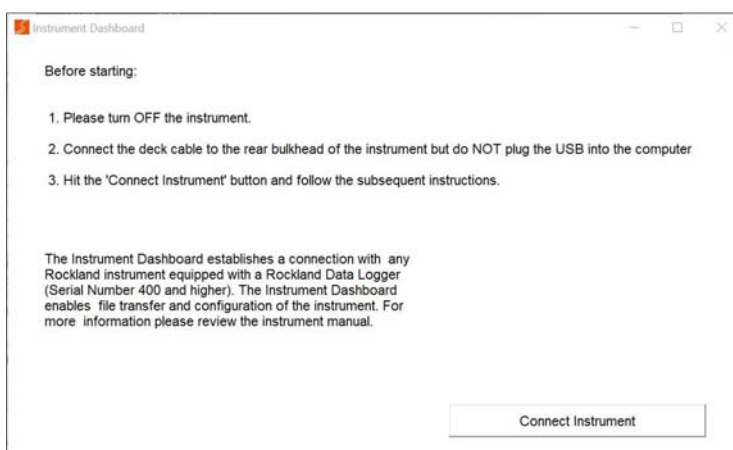

Figure 31: Connecting to the instrument with Zissou Essentials.
5. Hit the “Connect Instrument” button (Figure 31).